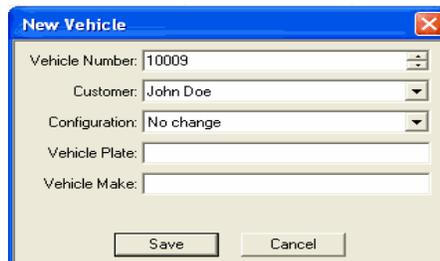

Figure 1.6B
b) To edit an existing vehicle, click on the icon  located at the top left of the program. This will then display the same message box (seen in figure 1.6B) and allow you to make the appropriate changes.